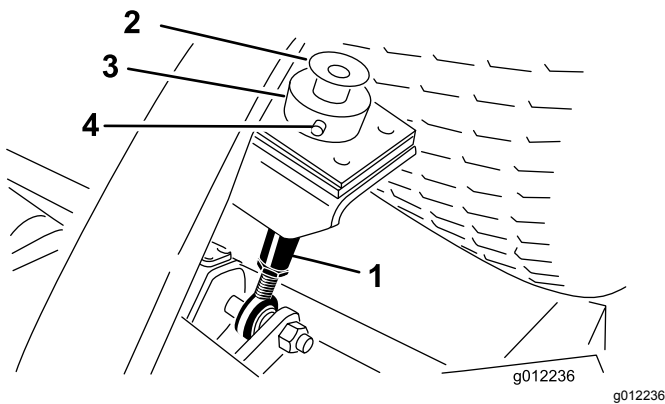

Figure 23
2. Remove the bolt and washer mounted to the top of each height of cut rod (Figure 23).
3. Remove the hairpin and clevis pin securing the height of cut collar to the height of cut rod on the rear of the cutting unit (Figure 23). Remove the height of cut collar.